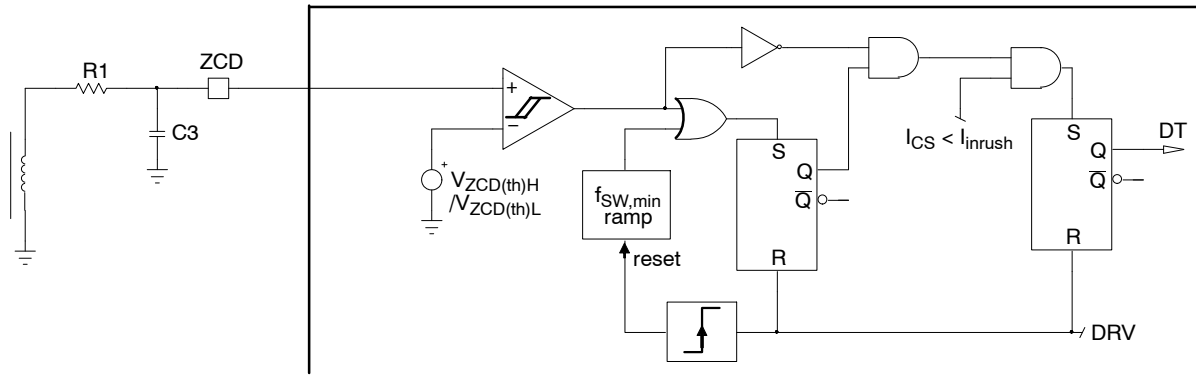

Figure 9. Zero Current Detection Block
Figure 9 shows how the NCP1655 detects the valley.
- The ZCD pin impedance (for instance  $R_3$  of Figure 9), must be higher than 7.5 kΩ not to trigger the ZCD pin short-to-ground protection.
If no ZCD can be detected when the circuit operates in FCCrM mode, the circuit cannot use the valley detection to start a new current cycle. In this case, the next DRV pulse is forced by the DCM minimum frequency ramp ( $f_{sw,min}$  ramp of Figure 9) which acts as a watchdog.
Before the new pulse is generated, the circuit senses the pin impedance by sourcing 250  $\mu$ A. No DRV pulses are generated until the pin voltage exceeds  $V_{ZCDH}$ . Hence, the part is inhibited when the pin is grounded. Not to trigger this protection, the pin impedance (for instance  $R_3$  of Figure 9. must be higher than 7.5 k $\Omega$ ).